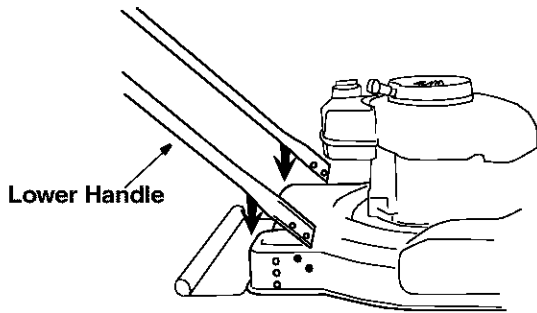

Figure 2
- Install the hex bolts and flange nuts from group 4 of the hardware pack. Using two 1/2" wrenches, tighten securely. See Figure 2.